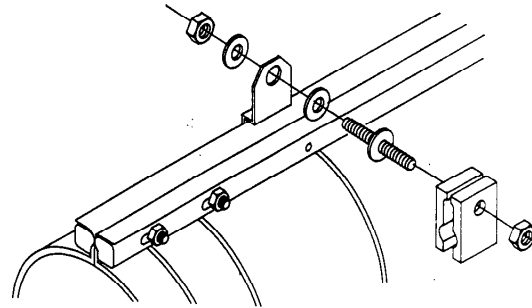

FIGURE 36 - AERIAL INSTALLATION
20.01 Place 2 lashing wire clamps (not supplied) on the suspension strand (see Figure 36). One directly above each aerial suspension plate that was placed in Step 18.02.